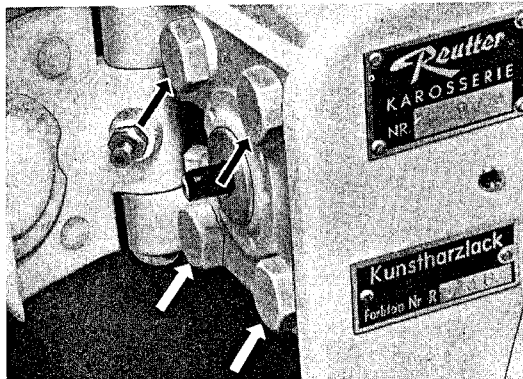

Fig. 34
2. After installing the door, check whether the door fits flush with the body on all sides. The adjustment can be made by removing or installing shims at the door hinges. Remove the four cap screws shown in Fig. 34 and adjust as required.